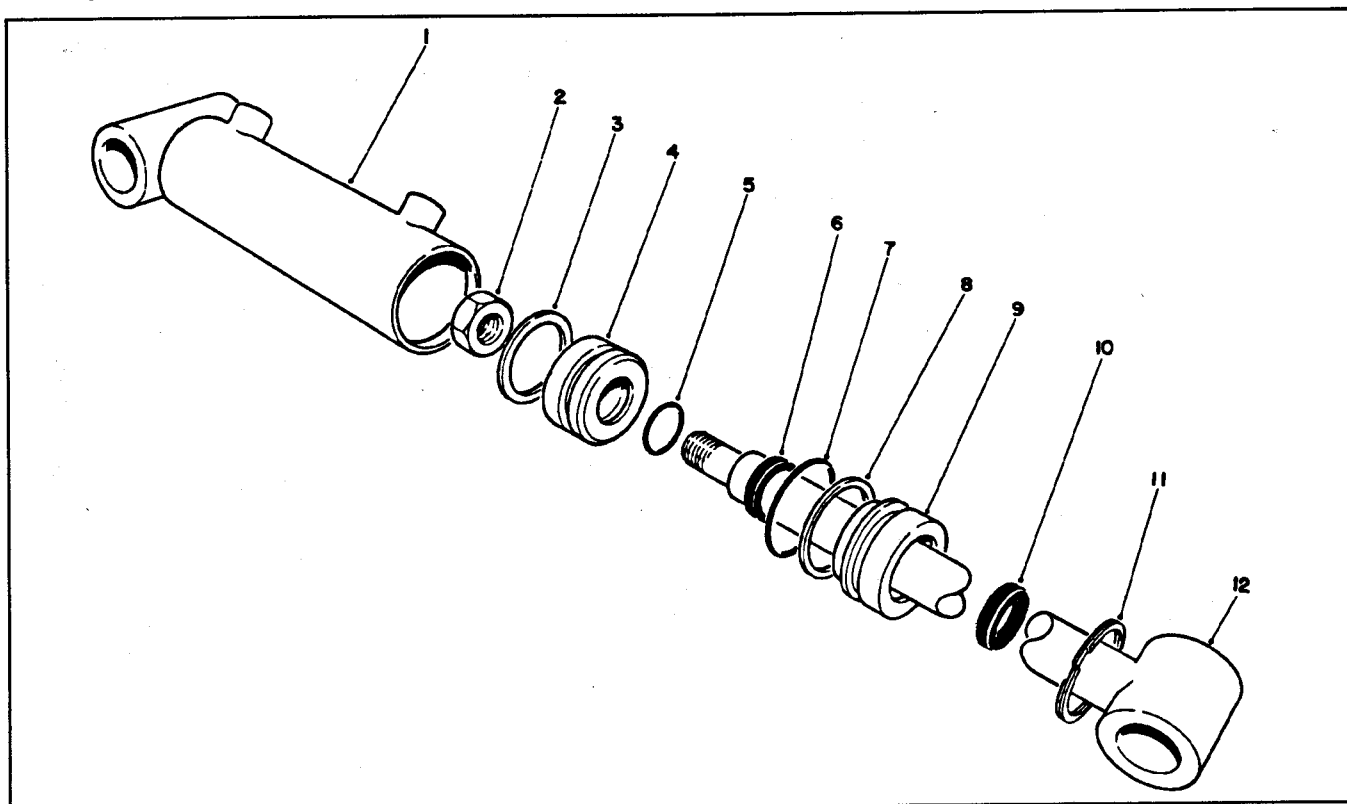

Figure 98
4. Remove the retaining ring (Fig. 98). Grasp the clevis end of the shaft and use a twisting and pulling motion to carefully extract the piston, shaft, and head from the barrel.